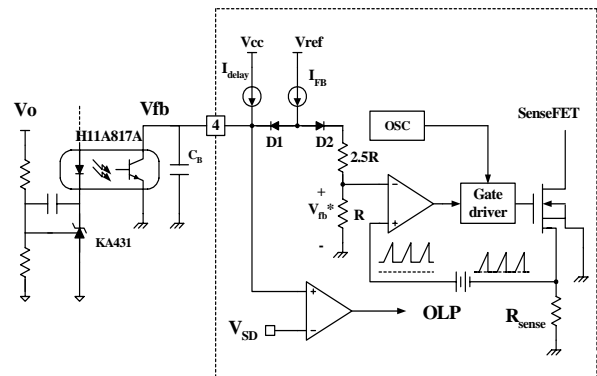

Figure 5. Pulse width modulation (PWM) circuit
**2. Feedback Control** : FSDM0565RB employs current mode control, as shown in Figure 5. An opto-coupler (such as the H11A817A) and shunt regulator (such as the KA431) are typically used to implement the feedback network. Comparing the feedback voltage with the voltage across the Rsense resistor plus an offset voltage makes it possible to control the switching duty cycle. When the reference pin voltage of the KA431 exceeds the internal reference voltage of 2.5V, the H11A817A LED current increases, thus pulling down the feedback voltage and reducing the duty cycle. This event typically happens when the input voltage is increased or the output load is decreased.
**2.1 Pulse-by-pulse current limit:** Because current mode control is employed, the peak current through the Sense FET is limited by the inverting input of PWM comparator (Vfb\*) as shown in Figure 5. Assuming that the 0.9mA current source flows only through the internal resistor (2.5R + R = 2.8 kΩ), the cathode voltage of diode D2 is about 2.5V. Since D1 is blocked when the feedback voltage (Vfb) exceeds 2.5V, the maximum voltage of the cathode of D2 is clamped at this voltage, thus clamping Vfb\*. Therefore, the peak value of the current through the Sense FET is limited.